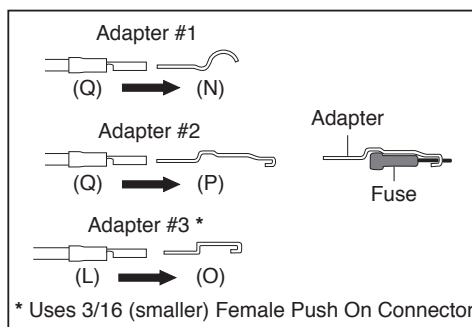

fig. 15
- c. Connection to the fuse terminal will depend on what type of fuse your vehicle uses. If your vehicle uses the barrel type fuse, use adapter #1. If you have the standard spade type fuses, use adapter #2. Many late model vehicles use a smaller spade type fuse which requires adapter #3 (fig. 15). If you use adapter #1 or #2 you will need to crimp on a 1/4" (14-16GA) female connector supplied in kit. If you use adapter #3 you will need to crimp a on 3/16" (14-16GA) female connector supplied in kit.